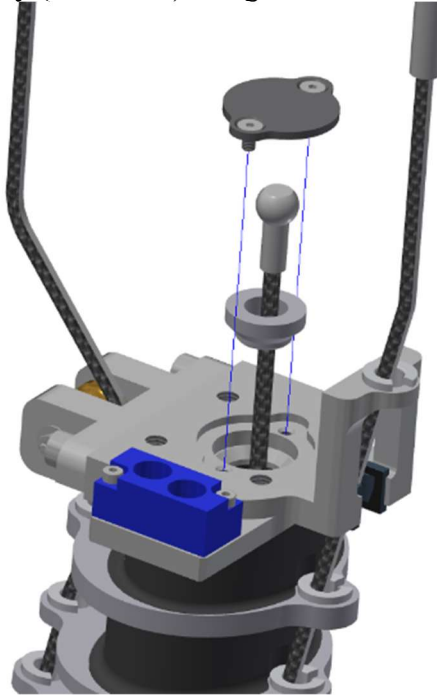

Figure 4-33. Insert neck center cable assembly
- 4.3.4 Insert the threaded end of the Neck Center Cable Assembly (474-2600) through the Neck Center Cable Fixture (474-2334) and into the top of the neck. Install the Neck Cable Cover (474-2333) over the top of the neck center cable fixture and neck assembly (474-2110) using two M2.5 X 5 FHCS (Figure 4-33).